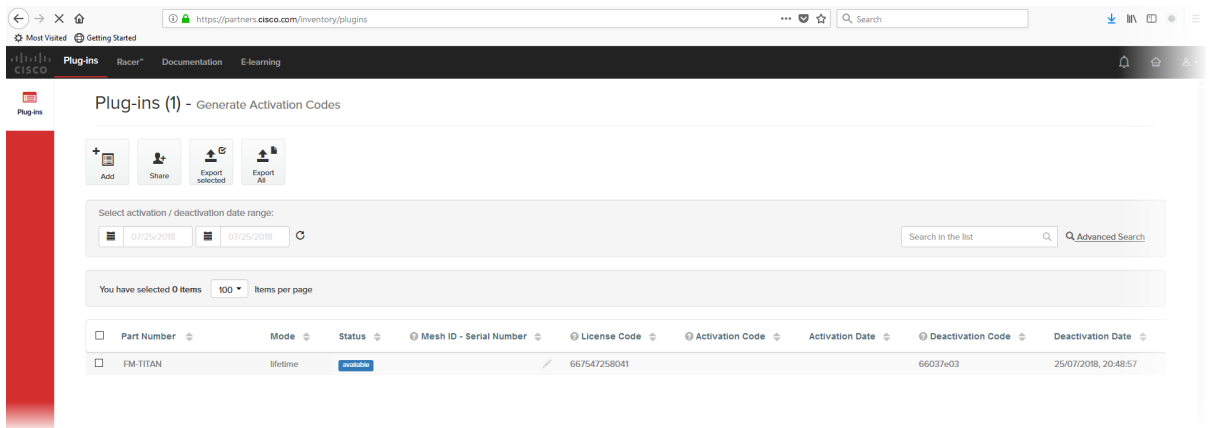

Figure 65. Partner Portal (Plug-ins web page)
- The Plug-ins web page will be shown (Figure 65 \(page 120\)).